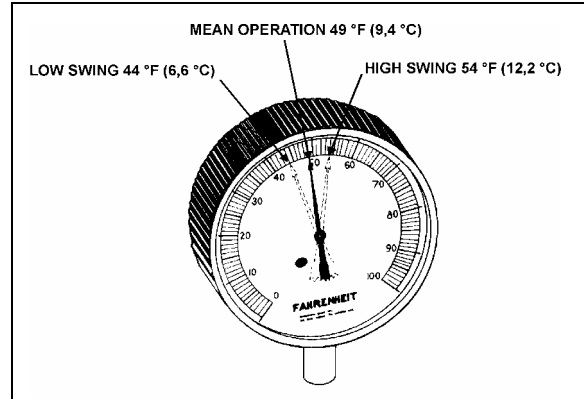

FIGURE 33: HIGH & LOW SWING TEMPERATURE AT REMOTE BULB²²⁰⁴⁷
6. Check approximately 5 readings of pressure at 2-minute intervals and convert to temperature using the temperatures & pressures table (page 31). Likewise check the temperature reading at the remote bulb at the same 2-minute intervals and record the low and high swing readings of the needle (refer to Fig. 33).
Example of readings taken at fig. 33: